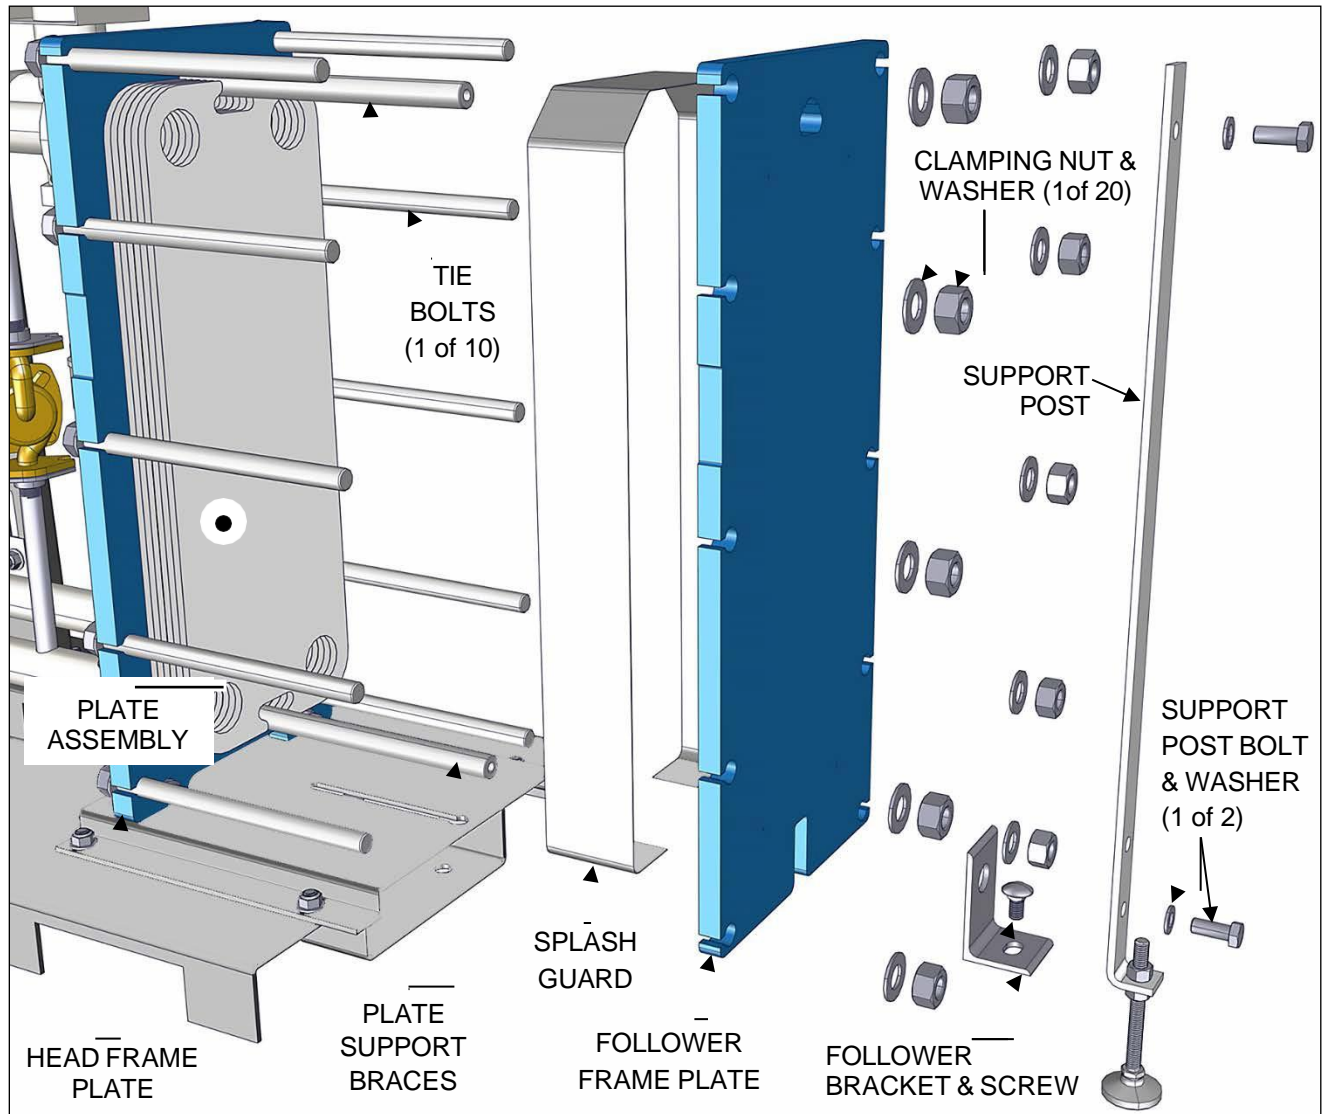

FIGURE 4-2: Plate and Frame Heat Exchanger Parts
To disassemble the heat exchanger and access the plate assembly for cleaning or replacement, refer to Figure 4-2 and to the instructions that follow. Parts in Figure 4-2 are labeled according to the nomenclature used in the disassembly instructions on the next page.
Figure 4-2 is for part identification only and is not meant to accurately portray the plate assembly.
9. Remove the upper and lower Support Post Bolts, washers, and support post (Figure 4-2) and set aside for reassembly.
10. Remove the Follower Bracket and Screw (Fig. 4-2) and set aside for reassembly.
11. Pull the Follower frame plate back far enough to expose the internal Plate Assembly (Fig. 4-2).
12. Remove the Splash Guard (Fig. 4-2), and set aside for reassembly.
1. After the plate assembly is in order, refer to Figure 4-2 and instructions in Section 4.3.2 for identification of parts involved in the reassembly.
10. Replace the Splash Guard, reassemble the Cover Bracket and Screw to the Follower Cover, and affix the Support Post to the Plate Support Braces at two places (see Figure 4-2).